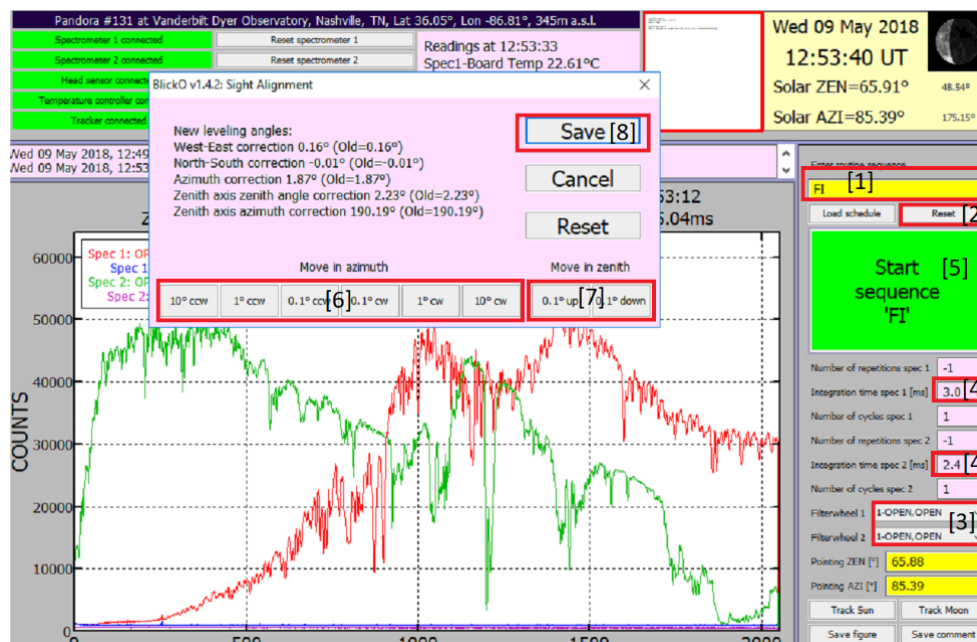

Figure 4
4. In BlickO, enter the routine sequence ‘FI’ to perform a manual alignment [1] (figure 4). When the ‘Sight Alignment’ window appears, click on the button “Reset” [2] just below of the command window, to reset the routine sequence and set the default spectrometer parameters.